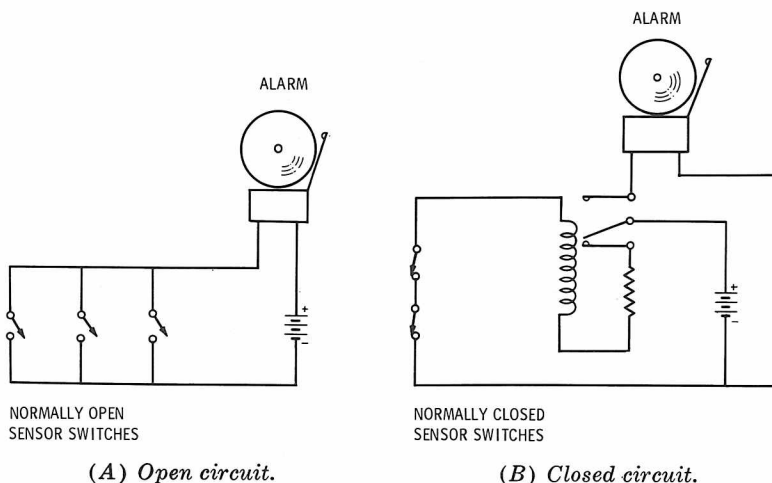

Figure 8-1. Open- and closed-circuit alarm configurations.
Figure 8-1 shows the two basic burglar alarm configurations: open-circuit and closed-circuit. Open-circuit alarms are simple to design and construct, but since their sensor switches are normally open they can be easily disabled by simply cutting one of the main sensor wires. Keep in mind that a normally open (NO) magnetic switch is normally open *when the magnet is next to the switch*. And a NC magnetic switch is normally closed *when exposed to the magnet*.
Closed-circuit alarms are more effective since they continually monitor the sensors and sensor wires. If a sensor is opened or a sensor wire is cut, the alarm will sound. A major disadvantage of the closed-circuit system shown in Figure 8-1 is the standby current requirement. Since the relay is constantly on, no less than several milliamperes and probably more are consumed *continuously*.